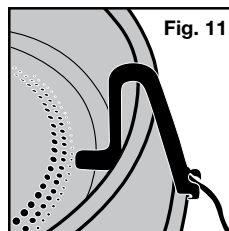
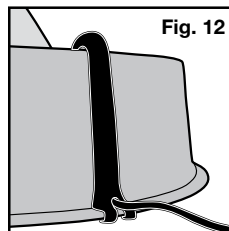

Fig. 11
Fig. 12
3. Take one of the plastic cord clips and align with the electrical power cord hanging over the rim of the bowl. With the two-prong end on the outside of the bowl (**Fig. 11**), slide the cord clip all the way down until it clips onto the bottom of the bowl (**Fig. 12**).